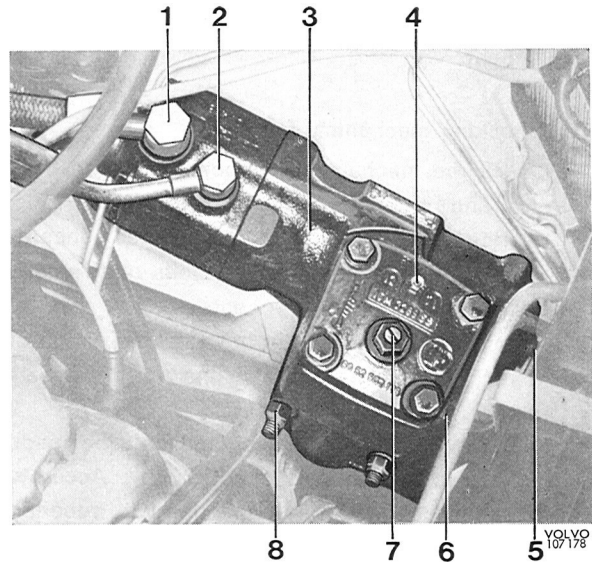

Fig. 6-74. Steering gear installed
Jack up the front end. Screw out the drain plug (6, Fig. 6-74). Turn the steering wheel to the left to the stop position. Remove the cover on the container.
4. Open the bleeder screw (4, Fig. 6-74)  $\frac{1}{2}$ —1 turn. Close it when oil starts flowing out.
- c) Slacken the nut for the adjusting screw (5, Fig. 6-74).
4. Disconnect the oil lines (1 and 2, Fig. 6-74) from the steering housing after the connections have been cleaned. Slacken the clamping bolt.
5. Remove the attaching bolts (8) and pull the steering gear forwards.
3. Install the steering gear spindle in the flange of the lower steering column section. Install and tighten the attaching bolts (8, Fig. 6-74). Tighten the clamping bolt. Check that the distance between the steering gear and the lower flange is  $12 \pm 3$  mm. Connect the oil lines.